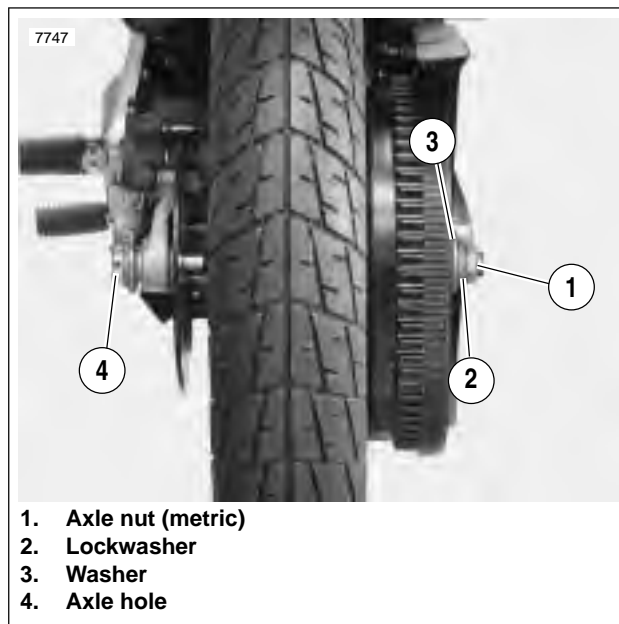

Figure 1-20. Rear Wheel Mounting
4. See Figure 1-20. Place rod or screwdriver through axle hole. Loosen rear axle nut (1) (metric).